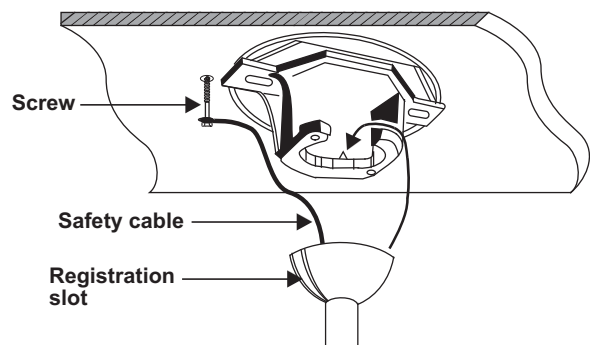

Figure 9
8. Now lift the motor assembly into position and place the hanger ball into the hanger bracket. Rotate down rod until the "Check Tab" has dropped into the "Registration Slot" and the down rod and ball assembly seat firmly. The down rod and ball assembly should not rotate if this is done correctly. (Fig. 9)
9. An additional safety support is provided to prevent the fan from falling. Secure the safety cable to the ceiling joist with screw and washer. (Fig. 9)